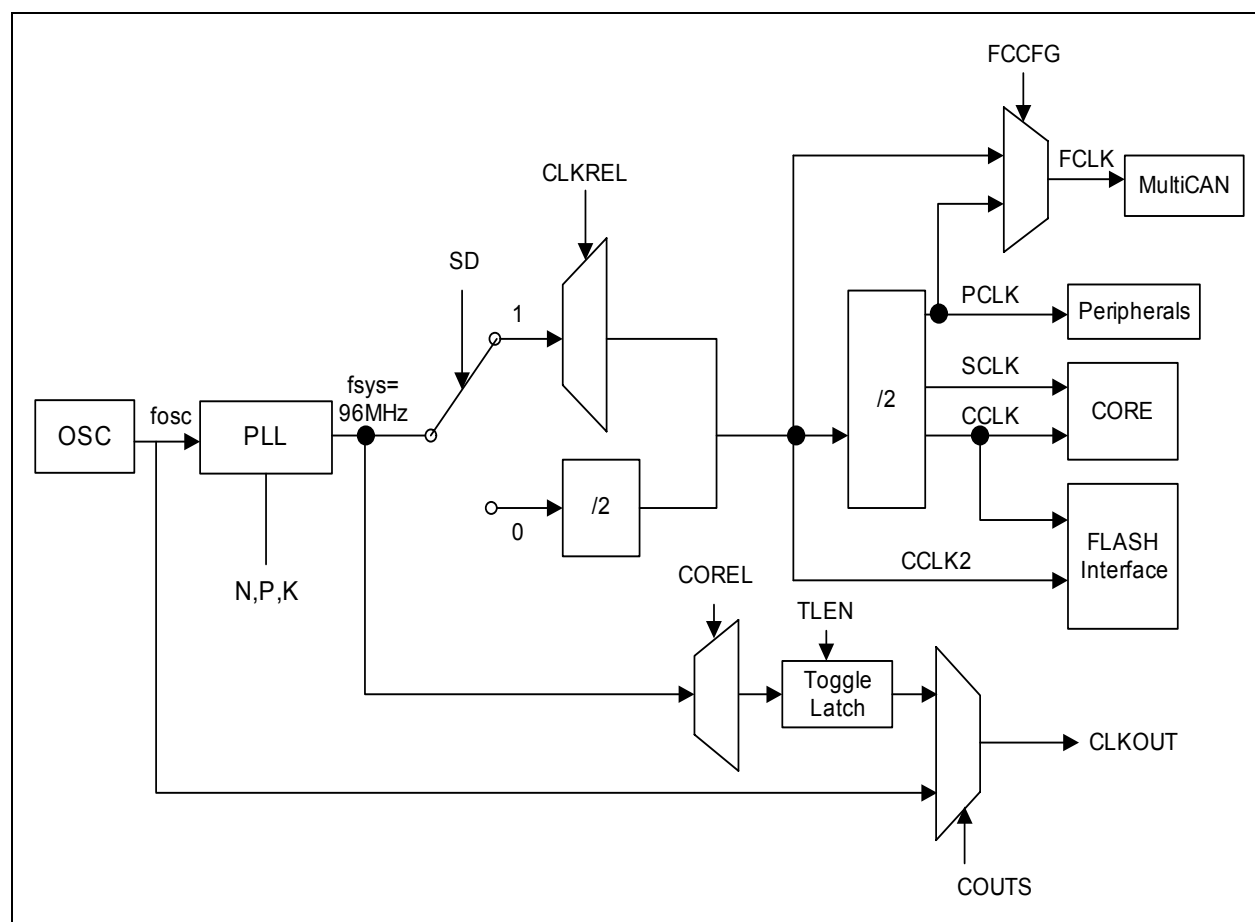

Figure 26 Clock Generation from f_{sys}
In addition, different clock frequencies can be output to pin CLKOUT (P0.0 or P0.7). The clock output frequency, which is derived from the clock output divider (bit COREL), can further be divided by 2 using toggle latch (bit TLEN is set to 1). The resulting output frequency has a 50% duty cycle. **Figure 26** shows the clock distribution of the XC886/888.
1) f_{SYS} is the PLL output clock. During normal operating mode, CPU clock is $f_{SYS} / 4$. Please refer to Figure 26 for detailed description.